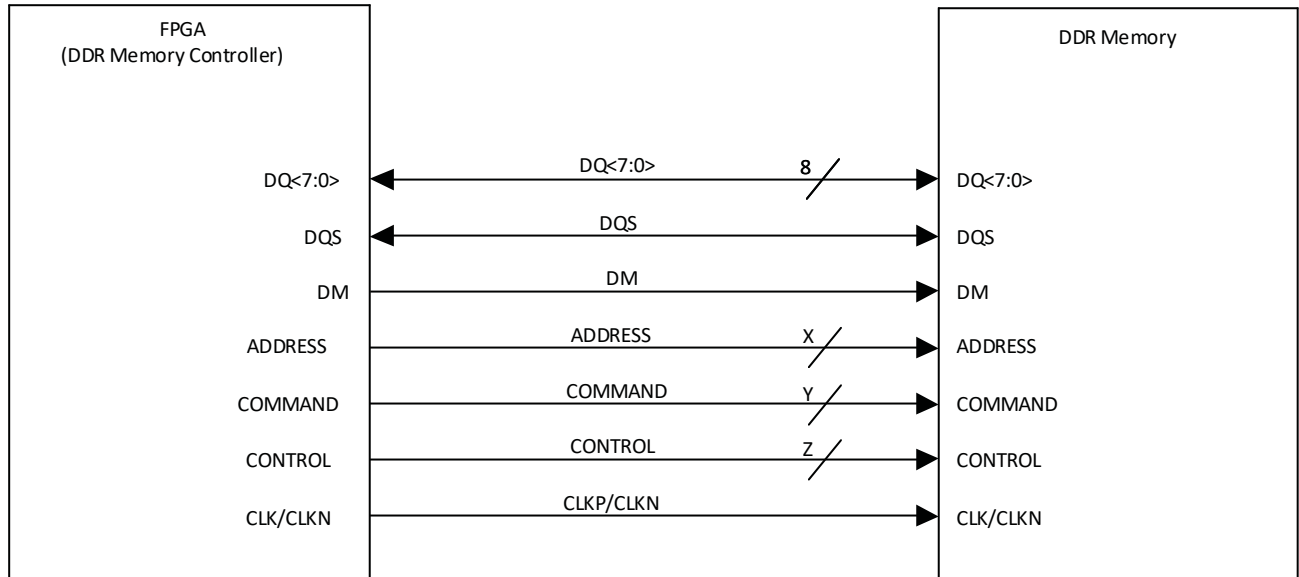
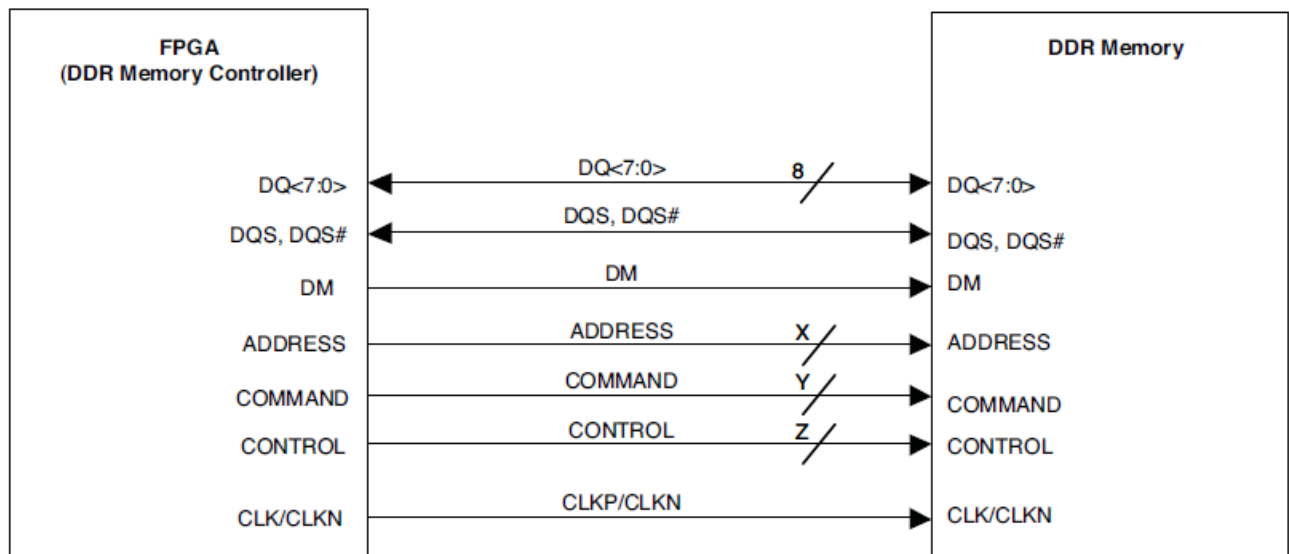

Figure 8.1 Typical DDR SDRAM Interface
Figure 8.2 Typical DDR2 and DDR3 SDRAM Interface
When reading data from the external memory device, data coming into the device is edge-aligned with respect to the DQS signal. This DQS strobe signal needs to be phase shifted 90° before the FPGA logic can sample the read data. When writing to a DDR/DDR2/DDR3 SDRAM, the memory controller (FPGA) must shift the DQS by 90° to center-align with the data signals (DQ). A clock signal is also provided to the memory. This clock is provided as a differential clock (CLKP and CLKN) to minimize duty cycle variations. The memory also uses these clock signals to generate the DQS signal during a read through a DLL inside the memory. Figure 8.1 and Figure 8.2 show DQ and DQS timing relationships for read and write cycles.